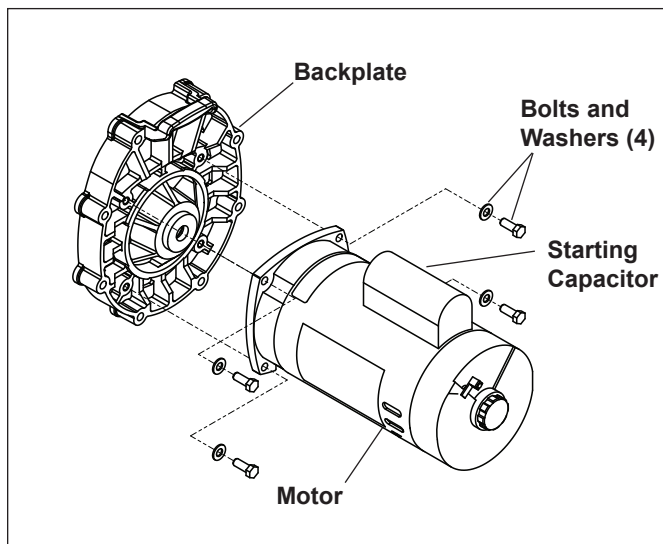

Figure 13. Backplate Assembly
3. Place the backplate motor assembly o-ring side down and unscrew the four (4) 9/16" screws and remove the motor.
**NOTE** Before removing the backplate, note the alignment of the backplate to the motor. See Figure 13.
5. Replace the four (4) bolts and washers holding the backplate to the motor.